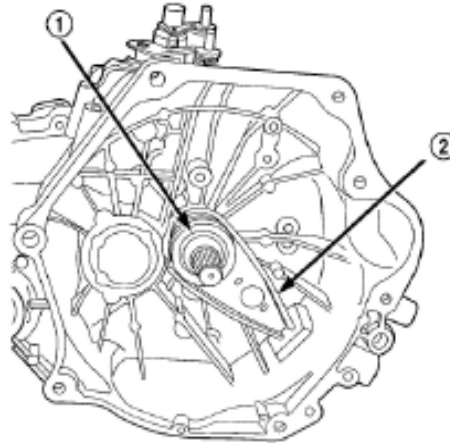

Figure 3-9 Clutch release bearing and lever
Traditional release bearing is used to engage or disengage the clutch pressure plate. The clutch release bearing is mounted on the transmission fore-bearing retainer for bearing connection and operate with release lever (Figure 3-9) which moves the bearing to contact the clutch cover diaphragm spring.
- (1) Remove the transmission from the vehicle (see transmission -Disassembly).
- (2) Remove module clutch assembly (if any).
- (3) Move the lever and bearing to upright position (Figure 3-9) and hold the release lever in pivot hole with hands, then pull it with steady force to get it out of the pivot. It is not allowed to use screwdriver or crow bard to take out the lever because it may damage the spring clinch on the lever.
- (4) Remove the lever from the bearing thrust plate as a unit. Take care, don't breakdown the fastener on bearing.
- (5) Check the condition of bearing which shall be pre-lubricated and sealed but not soaked in oil and solution.
- (6) Hold the bearing and it will turns smoothly with little thrust force. In the event that the bearing rotates unsmoothly or with noise, replace it with a new one.
- (7) Check the pivot spring clinch behind the clutch lever. If the spring clinch is broke down or deformed, replace the clutch lever.
- (1) Before assembly, pivot hole and lever arm should be lubricated with lubricating grease.
- (2) Mount the lever on the bearing on which the stud shall bypass the lever arm.
- (3) Enable bearing and lever assembly to slip into input shaft bearing cage (Figure 3-9).
- (4) Clip the clutch lever on pivot knob.
- (5) Assemble module clutch assembly (if any).
- (6) Assemble the transmission assembly (see transmission -Assembly).